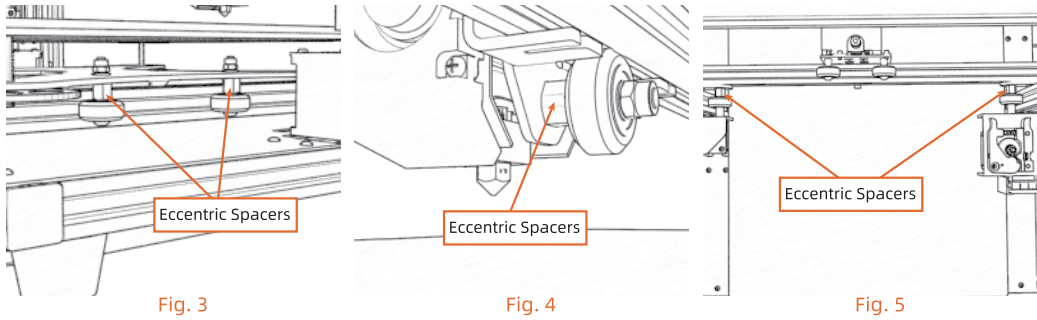

Fig. 3
- Some parts of the printer may be loose during shipment. When assembling the printer, please check whether the heated bed and nozzle module are fixed properly and will not shake, and whether the x-axis guide rail stable one the gantry and not easy to fall when power is off. If not, adjust the eccentric spacers of the heated bed, nozzle module and x-axis guide rail (fig. 3, fig. 4, fig. 5) until the heated bed or nozzle module just stop shaking, or the x-axis guide rail is just stable on the gantry and does not fall easily. Note that if the eccentric spacers are too tight, the movements will not be smooth and the pulleys are easy to wear.